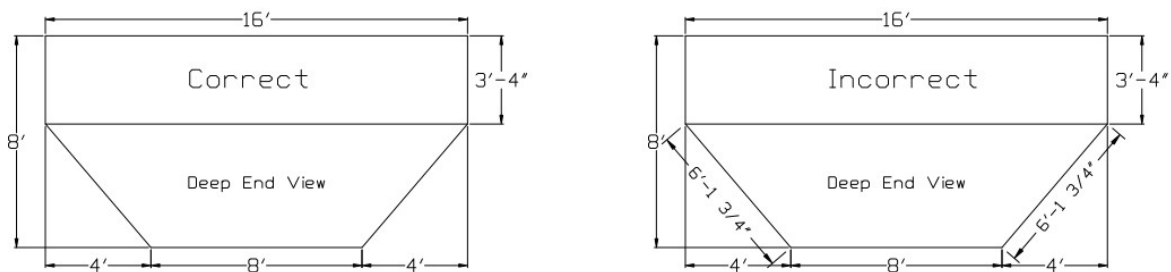

Figure 6
**TIP:** All Slope Measurements are to be taken on the horizontal and vertical plane as shown below: (Figure 6)